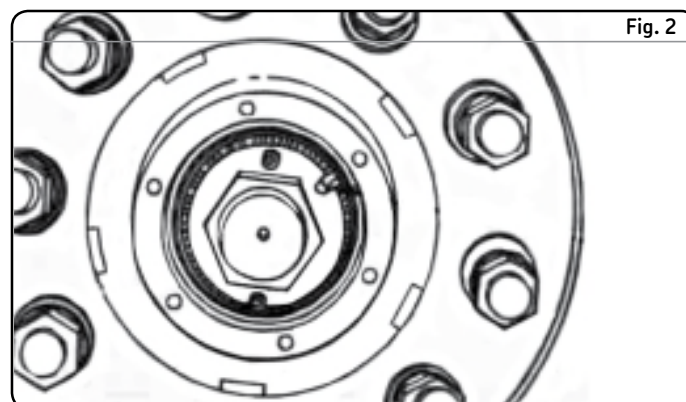

Fig. 2
- 3 The lock nut can now be threaded onto the spindle, as shown in **fig. 2**, and tightened by hand.